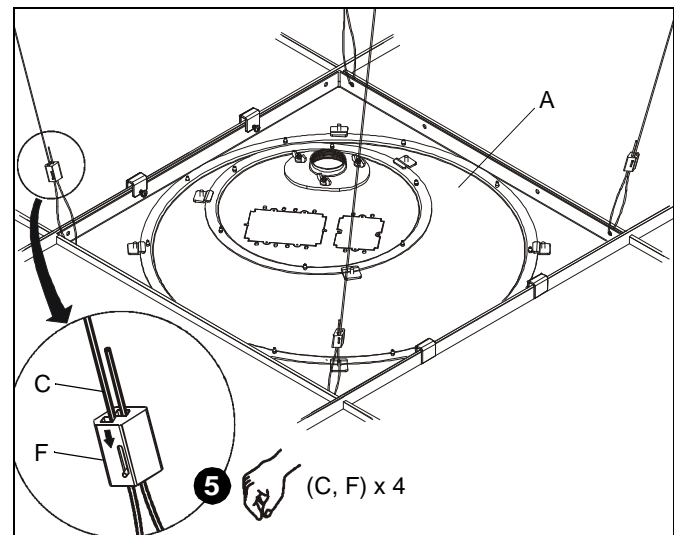

Figure 10
- Thread each cable (C) completely through cable lock (F), corresponding hole(s) in corner of CMS445 assembly (A), and completely through opposite side of cable lock (F) (See Figure 10). Adjust cable tension until CMS445 assembly (A) is supported *entirely* and *evenly* by all four support cables, but not so tight as to distort ceiling tile framework.